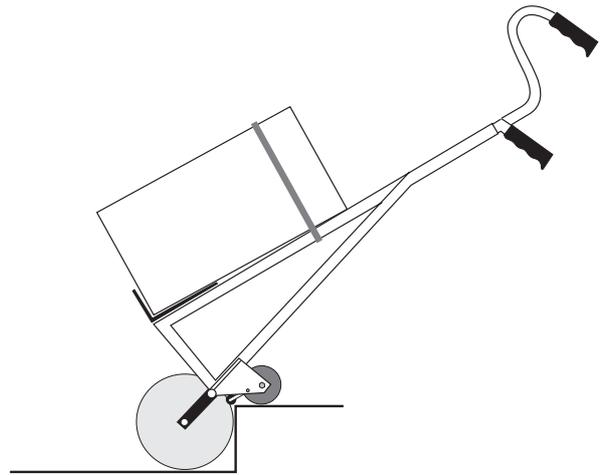

FIGURE 31
4. At this point a load alternation takes place. You can clearly feel a pull forward at the handlebars. Compensate this movement of the **CargoMaster** by pushing the handlebars downward, thus decreasing its angle of inclination as shown in Figure 31.